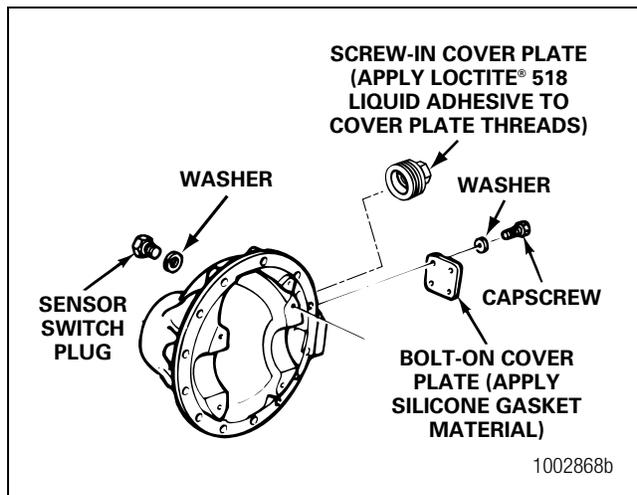

Figure 6.33
- Install the washer and plug into the hole for the sensor switch. Tighten the plug from 45-55 lb-ft (60-74 N•m). Figure 6.33.
- Install the four washers and capscrews. Tighten the capscrews to 7.4-8.9 lb-ft (10-12 N•m). Figure 6.33.